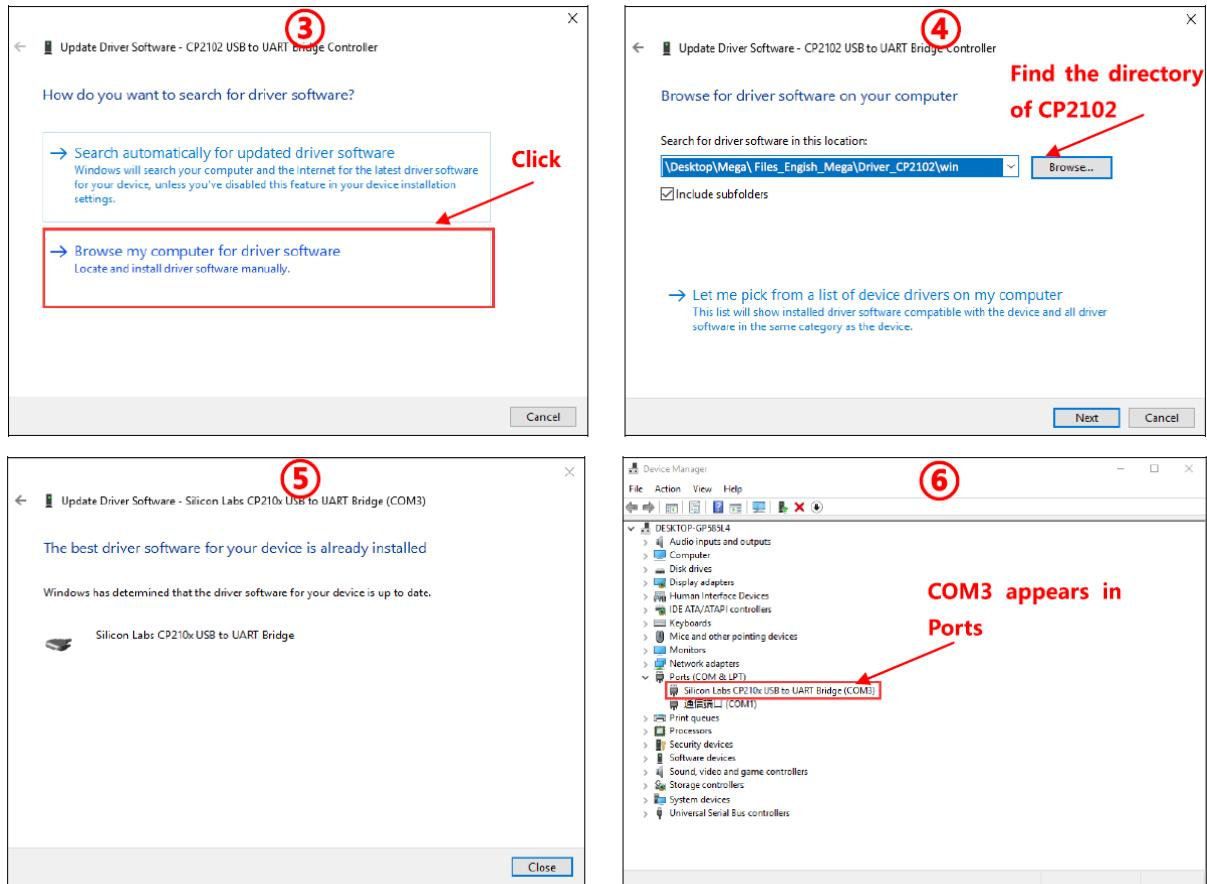
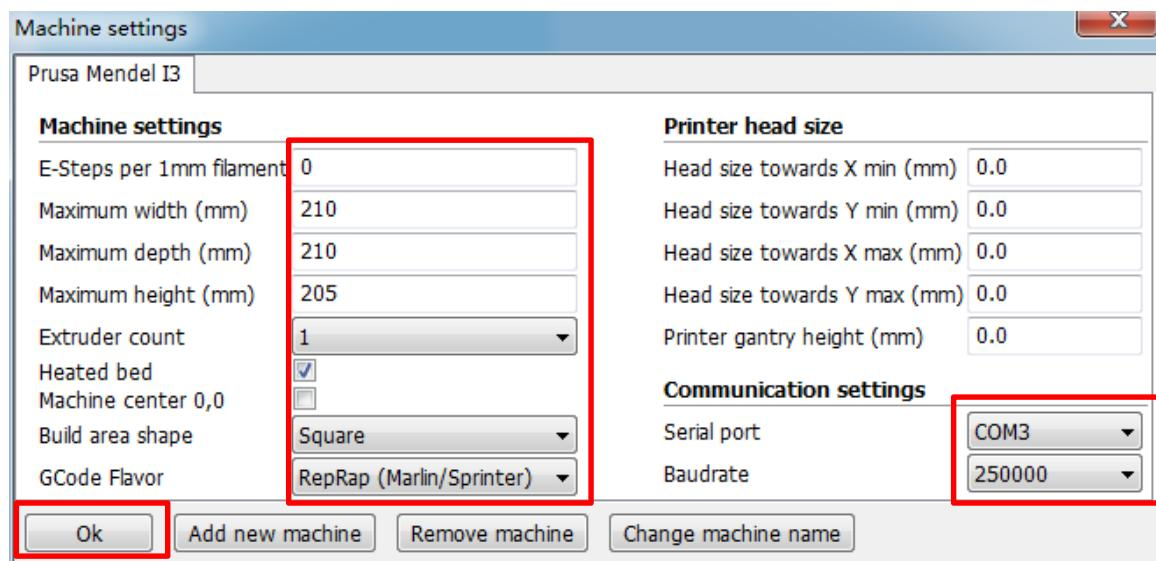

Figure 18
Figure 24
Here we take Windows 7-64 bit PC system for example, while there is “Installation for Mac PC” in SD card for those who use Mac system. On PC, right click on “Computer”-->“Properties”-->“Device Manager”, and then follow the steps as shown in **Fig.18**.
(1) Machine settings
Refer to Fig. 24, click “Machine”--->“Machine settings” to input those suggested parameters into the corresponding column. Please choose the Serial Port (COM) as shown in your PC→Device Manager→Port (refer to Fig. 18 -⑤, customers may have a different COMx other than the example COM3), and set the Baudrate to 250000. Those two parameters are essential for Cura to connect to the printer.